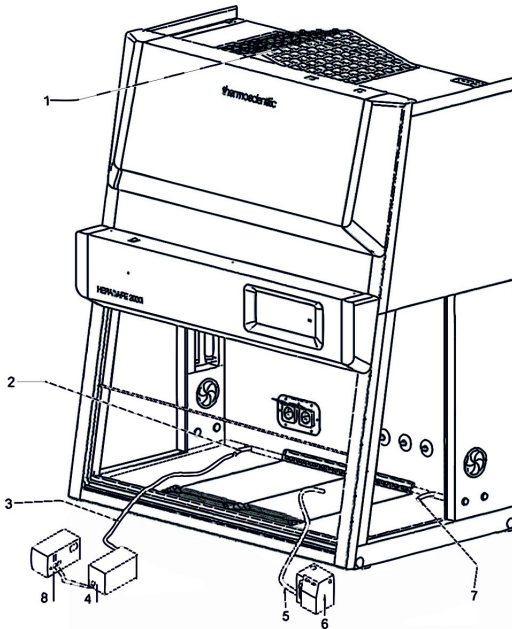

Figure 7. Testing down-flow filter Herasafe 2030i
1. The perforated plate stays inside the work chamber. Fig. 7: Route the hose [5] of the aerosol generator [6] so that the aerosols are supplied to the downflow upward airflow.
5. Fig. 7: Then connect the connection hose [3] of the particle counter (without the dilution line) with the measuring probe.
9. Fig. 7: Reconnect the testing hose supply [2] of the downflow plenum with the dilution line hose [3] and then with the connection hose of the particle counter [8] and measure the aerosol-concentration (aerosol-generated air-concentration R2) in the downflow plenum for 1 min. once again.